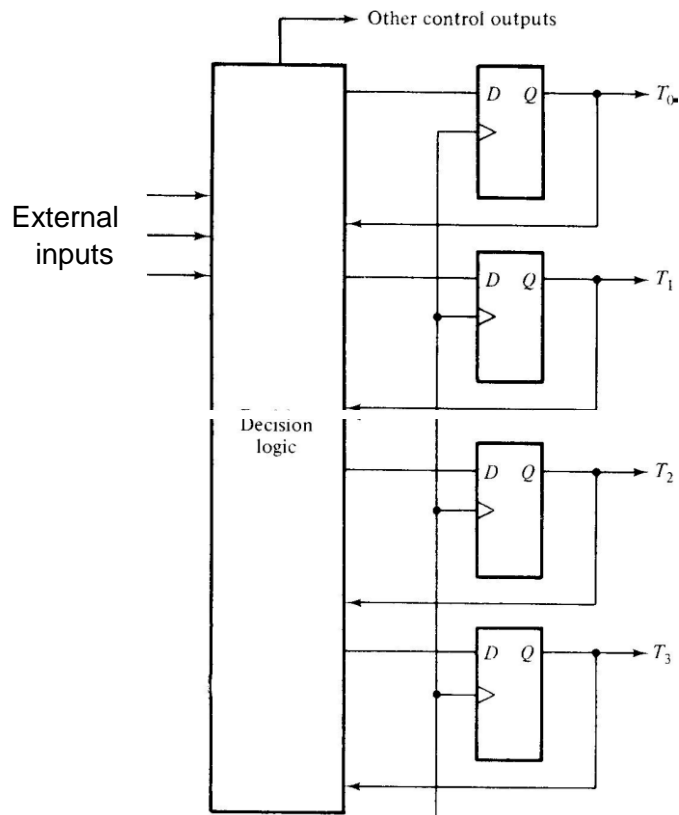

Fig 5.12 Control logic with one flip-flop per state
- In this figure 5.12 has four flip-flop per state T_i , $i = 0, 1, 2, 3$. at any given time interval between two clock pulses, only one flip-flop is equal to 1; all others are equal to 0.